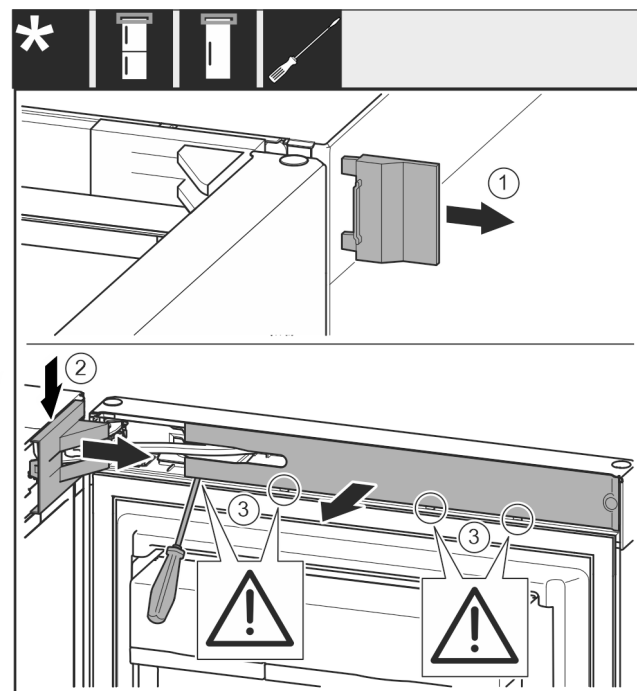

Fig. 10
- Remove the outer cover. *Fig. 10 (1)*
- Disengage and release the bearing bracket cover. Remove the bearing bracket cover. *Fig. 10 (2)*
- Unlatch the panel with a slotted screwdriver and swivel it to one side. *Fig. 10 (3)*